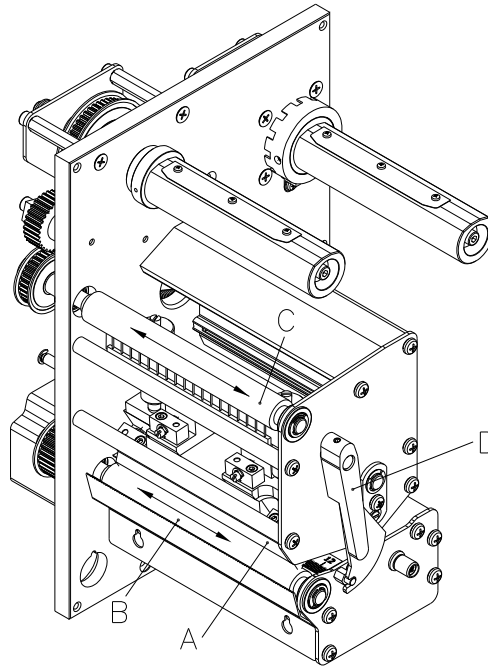

Figure 11
2. Turn red lever (D, in Figure 11) anticlockwise to lift up the printhead.